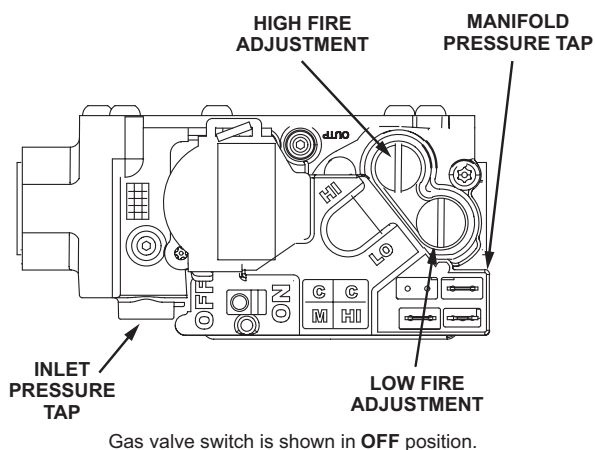
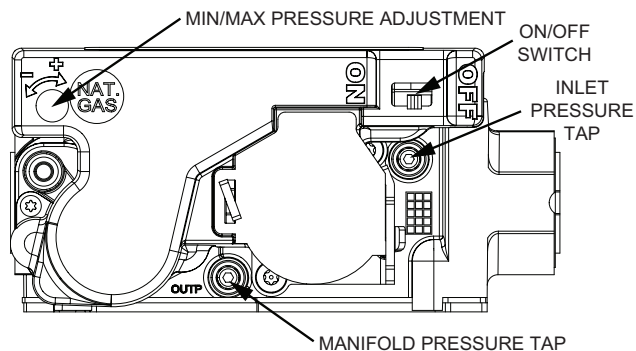

FIGURE 33
FIGURE 34
- 5 - Move gas valve switch to **OFF**. See FIGURE 33 and FIGURE 34.
- 6 - Wait five (5) minutes to clear out any gas. If you then smell gas, **STOP!** Immediately call your gas supplier from a neighbor's phone. Follow the gas supplier's instructions. If you do not smell gas, go to the next step.
- 7 - Move gas valve switch to **ON**. See FIGURE 33 and FIGURE 34.
For White Rodgers 36J54 valve (FIGURE 33), supply pressure is accessed by removing 1/8" hex screw. Remove the 1/8" hex screw and install a 1/8" fitting with hose barb. Connect tubing from the barbed fitting and route to measuring device to measure supply pressure.
For White Rodgers 36J27 valve (FIGURE 34), locate the 5/16" inlet pressure post on top of the valve. Using a 3/32" hex wrench, rotate pressure tap screw one rotation counter-clockwise. Connect a piece of 5/16" I.D. tubing over the post and route to measuring device.
For White Rodgers 36J54 valve (FIGURE 33), remove supply pressure barbed fitting and reinstall the 1/8" hex screw.
For White Rodgers 36J27 valve (FIGURE 34), remove tubing from the post. Then using 3/32" hex wrench, rotate the inlet pressure tap screw clockwise to seal the pressure port.
For White Rodgers 36J54 valve (FIGURE 33) manifold pressure, remove the 1/8" hex screw, install 1/8" fitting with hose barb, connect hose from barb to "+" side of measuring device.
For White Rodgers 36J27 valve (FIGURE 34) manifold pressure, locate the 5/16" manifold pressure post on top of the valve. Using a 3/32" hex wrench, rotate the outlet pressure tap screw one rotation counter-clockwise. Place 5/16" I.D. tubing over post and route to measuring device.